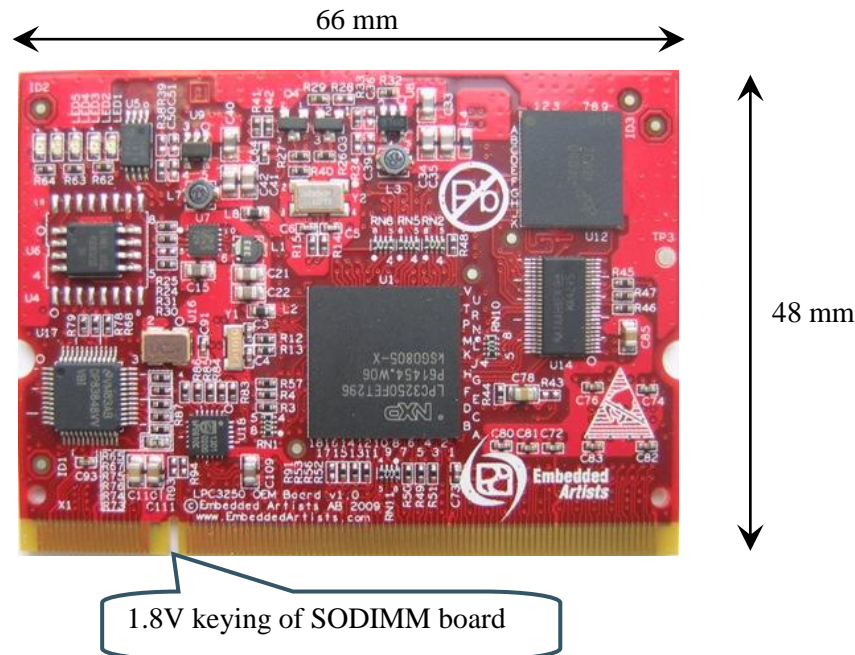

Figure 9 – LPC3152 OEM Board Mechanical Dimensions
*Figure 9* below contains a drawing of the board that includes mechanical measures. See SODIMM-200 standard for exact measures. 1.8V keying is used (SODIMM-200 boards are either 1.8V or 2.5V keyed).